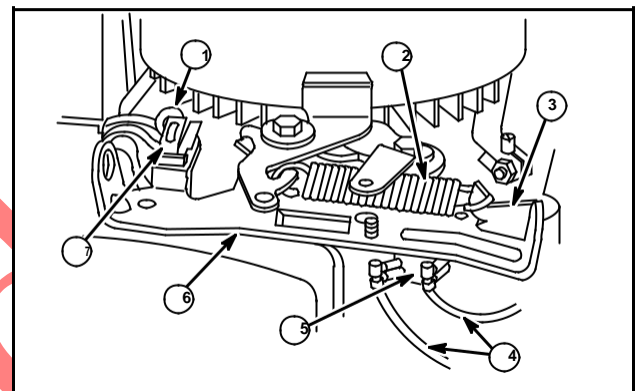

Fig. 128
4. Disconnect spring (2) from brake anchor (3), Fig. 128.
5. Disconnect stop switch wire (1) from stop switch.